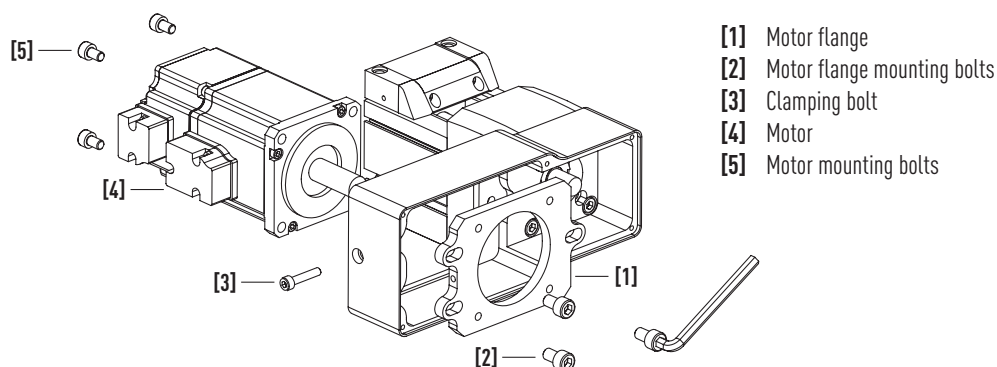

Fig. 7.44 Mounting the motor flange, clamping bolt, and motor
- ▶ Mount the motor **[4]** through the back of the housing as depicted in Fig. 7.44. The length of the mounting bolts **[5]** for the specific motor must not project by more than 0.5 mm into the housing.